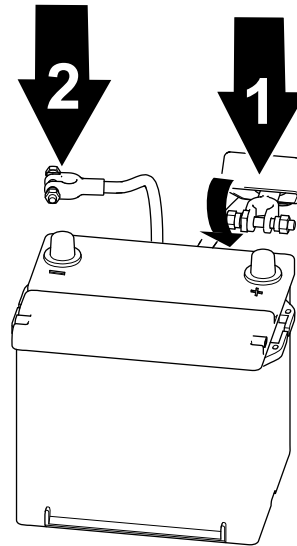

Figure 60
2. Lift the insulator and remove the positive battery cable from the battery post (Figure 60).
1. Connect the positive cable to the battery and tighten the battery-clamp nut (Figure 60).
2. Connect the negative cable to the battery and tighten the battery-clamp nut (Figure 60).